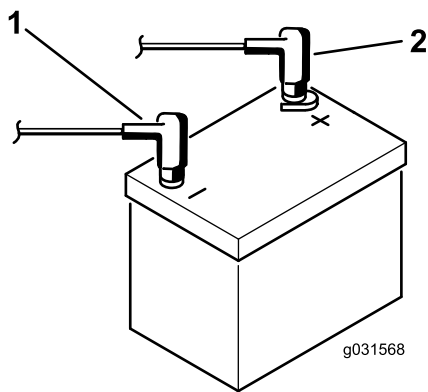

Figure 4
8. Install the positive cable (red) to the positive (+) terminal and the negative cable (black) to the negative (-) terminal of the battery and secure them with the bolts and nuts (Figure 4).